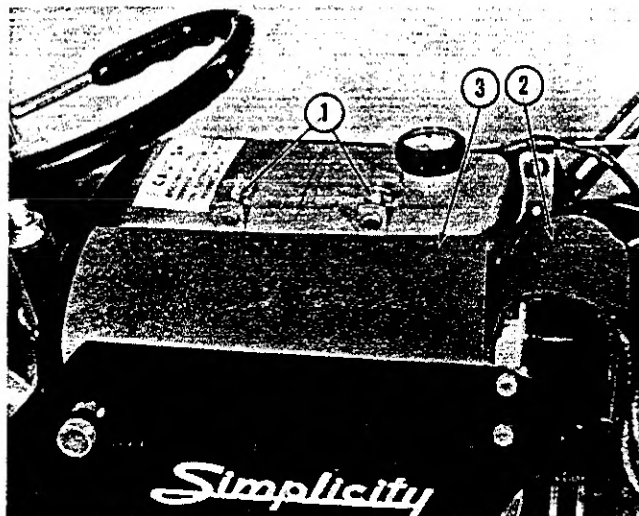

Fig. SG-5
Remove the two screws holding the support straps, (1), Fig. SG-5, and lift out the gas tank, after opening the straps slightly.
Replace the gasoline tank and secure in position by means of the two bolts through the mounting straps (1) Fig. SG-5. Re-connect the fuel line, and open the shut-off valve.
Position the voltage regulator insulation sheet as shown, (2) Fig. SG-5. Place larger insulation sheet over battery as shown, (3) Fig. SG-5.